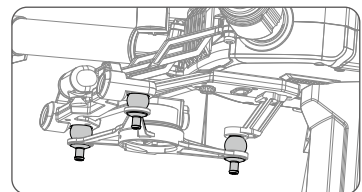

Fig.6
13. Check the gimbal dampeners to avoid aging, cracking, or leaking. (Fig. 6)